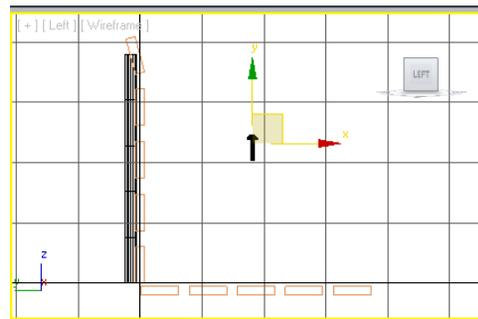

Figure 2-68 The *rivet001* group in the Left viewport
- Choose the **Zoom Extents All** tool and move *rivet001* in the Left viewport to visualize it properly, as shown in Figure 2-68.